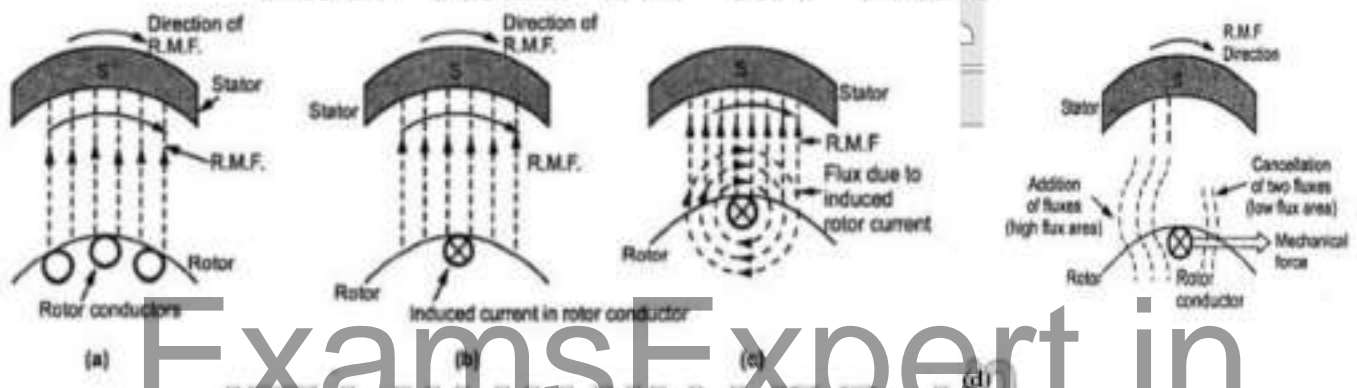

Fig 5.12
- Let the direction of rotation of the rotating magnetic field is clockwise as shown in the figure 5.12(a).
- As rotor forms closed circuit, induced e.m.f. circulates current through rotor called rotor current as shown in figure 5.12 (b).
- Current carrying conductor produces its own flux. So rotor produces its flux called rotor flux. For assumed direction of rotor current, the direction of rotor flux is clockwise as shown in the figure 5.12 (c).
- There are two fluxes, one R.M.F. and other rotor flux. Both the fluxes interact with each other and rotor conductor experience a force from left to right as shown in figure 5.12 (d).